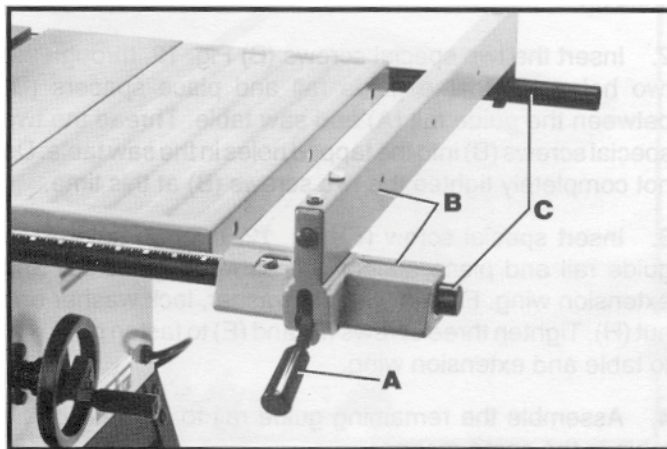

Fig. 16
1. Make certain the lock handle (A) Fig. 16, of the rip fence assembly (B) is in the up position.
2. Assemble the rip fence assembly (B) to both the front and rear guide rails, as shown in Fig. 16.
3. Lock the rip fence (B) Fig. 16, on the guide rails (C) by pushing down on lock handle (A).